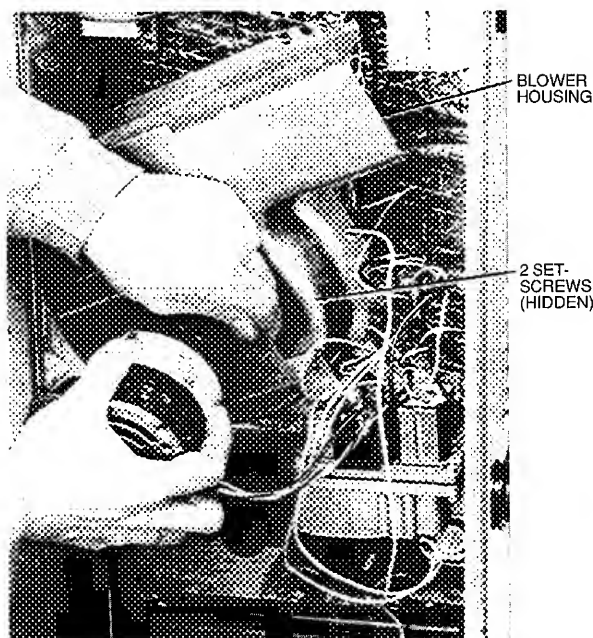

Fig. 33 — Removal of Motor and Blower Wheel
3. Slide the motor and blower wheel assembly out of the blower housing. (See Fig. 33.) Clean the blower wheel. If additional cleaning is required, continue with Steps 4 and 5.
4. To remove blower, remove 2 setscrews. (See Fig. 33.)